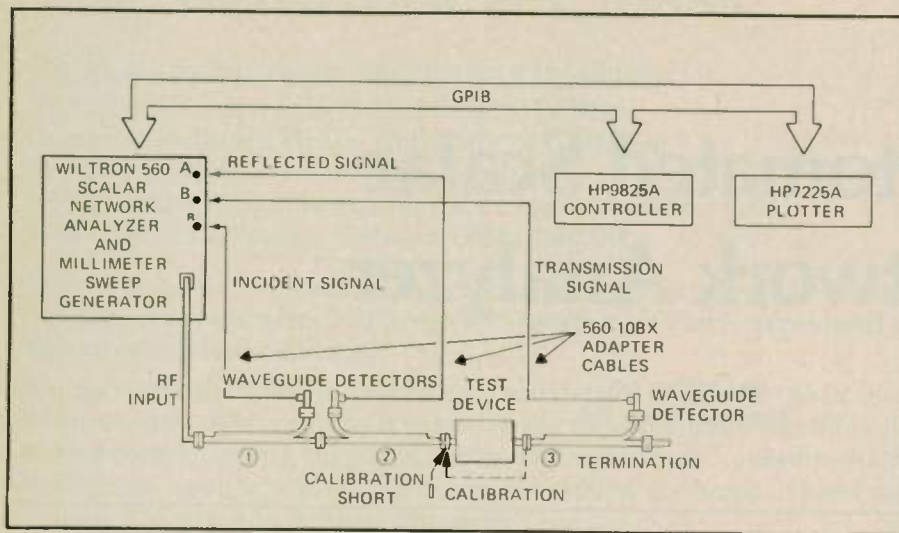

Fig. 3 Millimeter waveguide reflectometer setup for measurements above 34 GHz. Available components are listed in Table 2.
For measurements above 34 GHz, the recommended setup is shown in Figure 3. Notice that the only difference between Figure 3 and Figure 1 is that above 34 GHz waveguide detector mounts and Wiltron 560-10BX Adapter Cable are used in place of waveguide-to-coax adapters and the WSMA detectors. Because the SWR of millimeter waveguide detector mounts is very high, it is essential that coupler ③ be used as shown. The adapter cable interfaces the BNC output of the waveguide detector mounts to the network analyzer inputs. Built into the adapter cable are resistors which simulate the thermistor and offset impedances of the coaxial detectors and which are required to maintain the balance of bridge circuits in the network analyzer. Under these conditions, the network analyzer closely maintains with the waveguide detectors the logarithmic conformity and measurement accuracy that is achieved with the coaxial detectors in Figure 1.